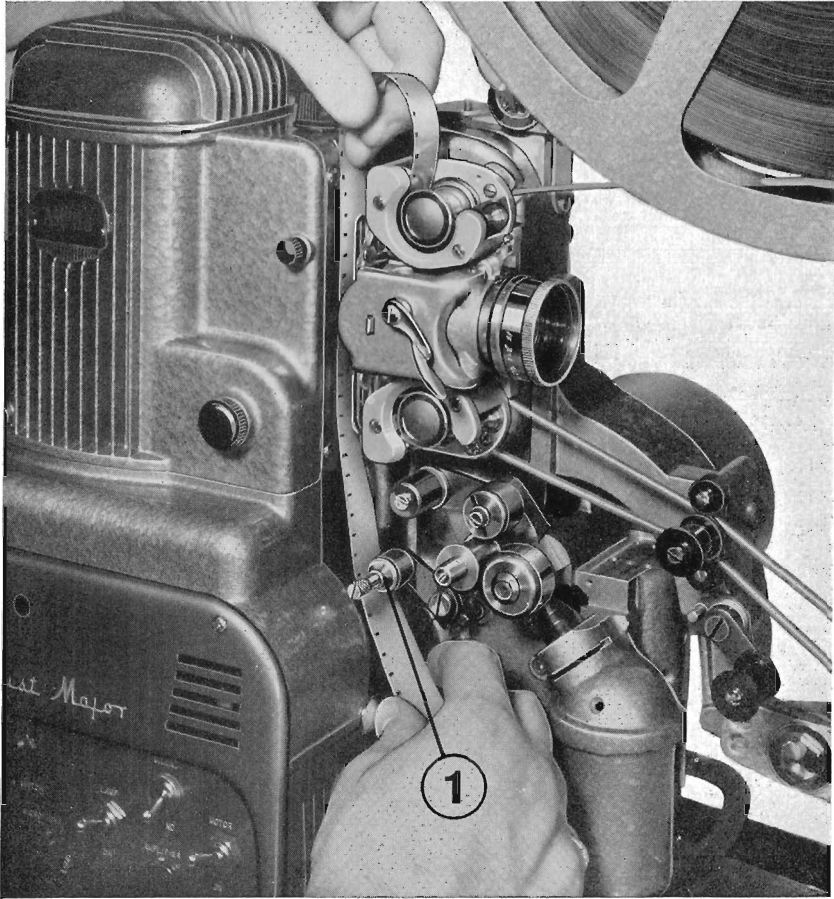
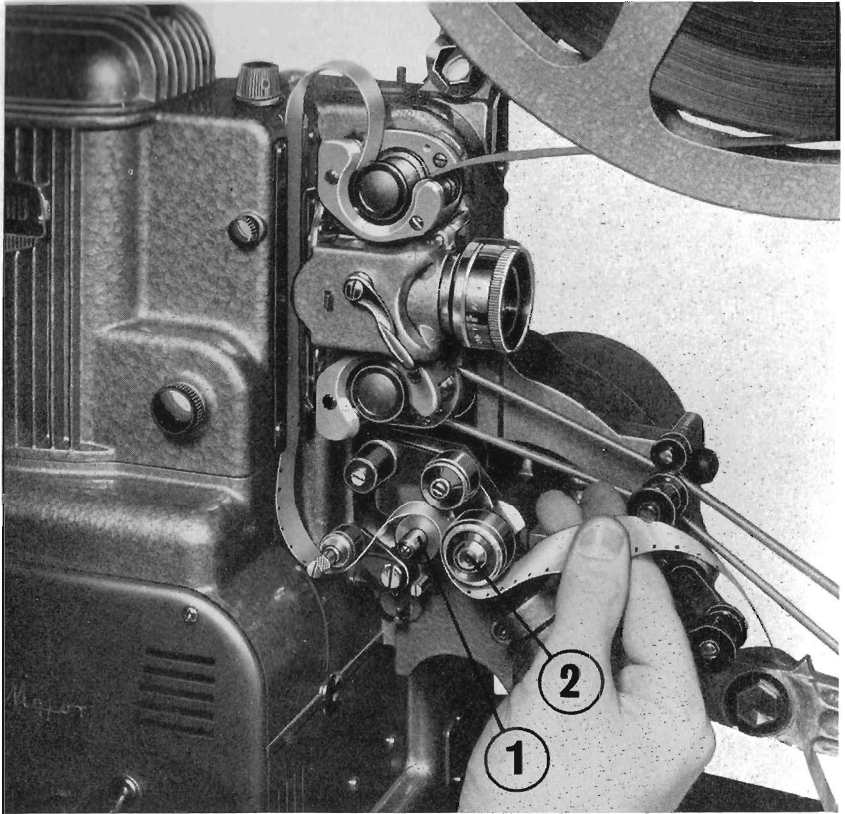
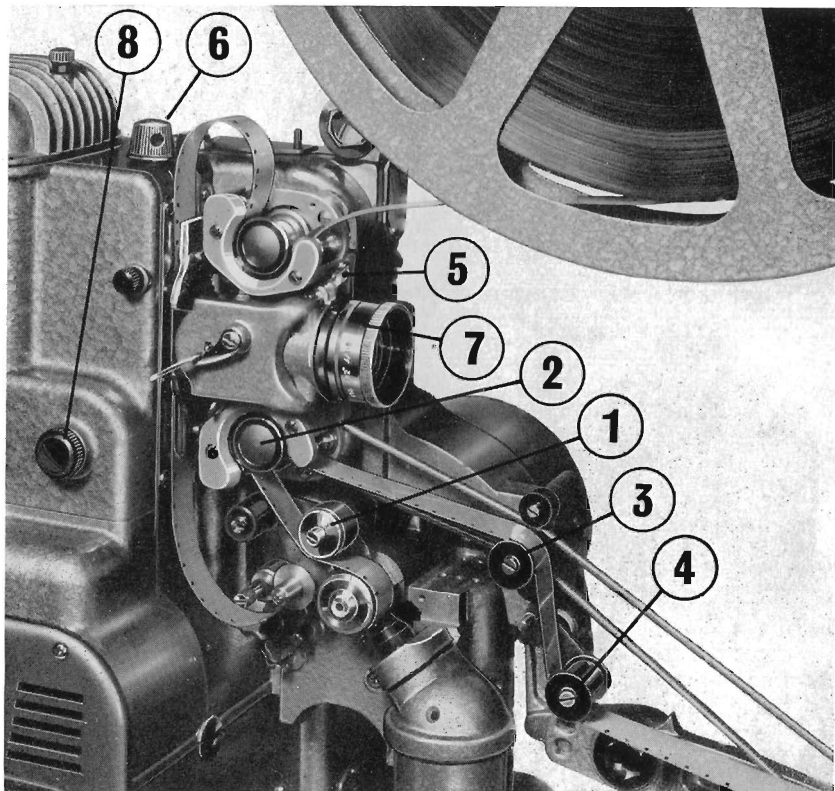
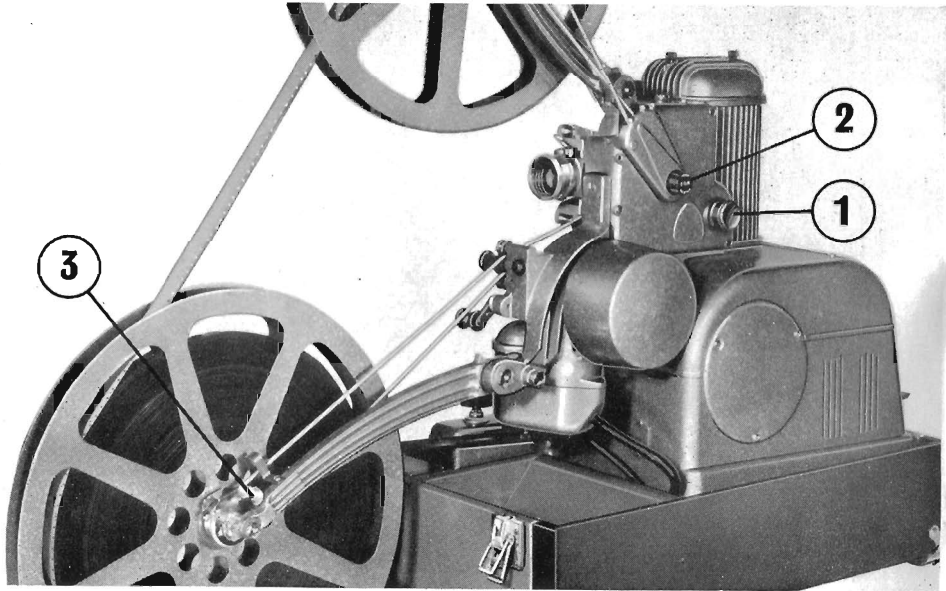

Fig. 5
Fig. 6
Fig. 7
Fig. 8
- 6 Thread the film through the film gate (see Fig. 5) leaving a loop at the top large enough for the insertion of two fingers.
- 7 Push the 'Lower Film Loop Synchroniser' (1 · Fig. 5) to the rear position and thread the film up over the 'Lateral Guide Roller' (1 · Fig. 6).
- 8 Thread the film around the 'Sound Drum' (2 · *Fig. 6*) and beneath the 'Sound Drum Follower Roller' (1 · *Fig. 7*) to the 'Take-up Sprocket' (2 · *Fig. 7*).
- 9 Slip the film edgewise on to and around the take-up sprocket (2 · *Fig. 7*) and pull on the loose end in order to be sure that the sprocket holes have engaged the sprocket teeth.
- 10 Place the film on top of the 'Film Guide Roller' (3 · *Fig. 7*) and under the 'Tension Equalizer Roller' (4 · *Fig. 7*).
- 13 Swing the 'Lower Film Loop Synchronizer' (1 · Fig. 5) to the forward position automatically providing the correct size of film loop.
- 14 Rotate the 'Inching Knob' (1 · Fig. 8) so that the top surface of the knob is turned towards the screen and make sure that the upper and lower film loops are maintained. (If not, recheck threading.)
- 3 Before focusing release the lens locking lever (5 · Fig. 7). A spring loaded quick thread holds the lens in place so that a straight pull will allow rough focusing or complete removal. Fine focusing is obtained by rotating the lens in the usual way. After the picture has been properly focused the lens should be locked into position.
- 4 If parts of two pictures or a horizontal line appears on the screen rotate the framing knob (6 · Fig. 7) in order to correct the condition.
- 6a In the event of losing the lower film loop (when projecting film with damaged sprocket holes) it is only necessary to move the 'Lower Film Loop Synchronizer' (1 · Fig. 5) to the rear position and then return to the forward position to re-establish the lower film loop without stopping the projector.
- 8 If required, single frames of the film may be projected as 'Stills' by turning the still picture button (8 · Fig. 7) clockwise until the mechanism stops. After the projector has stopped, if the picture is partly or completely obscured, rotate the inching knob (1 · Fig. 8) to bring the complete frame into view. The film will be automatically protected from excessive heat by the safety shutter. To put the projector back into motion rotate the still motion button fully anti-clockwise.
REWINDING FILM (See Fig. 8)
- 1 Thread the film from the lower reel to the upper reel as indicated. Insert the loose end of the film in a slot in the upper reel and turn the reel (clockwise as viewed in Fig. 8) two or three turns to wind up the slack.
- 3 Push in the rewind clutch (2 · Fig. 8) and after approximately 150 ft. of film have been rewound move the belt shifter (3 · Fig. 8) to its maximum clockwise position.
- 5 Rotate the belt shifter (3 · Fig. 8) to its maximum anti-clockwise position.
- B Loosen the lens locking lever (5 · Fig. 7) and remove the lens (7 · Fig. 7). Clean the lens surface with lens tissue. If the surfaces cannot be cleaned by breathing on them and wiping them with tissue, then dampen the tissue with lens cleaner. It is not advisable to pour lens cleaners or other solvents on to the lens elements as some liquids may cause them to separate.